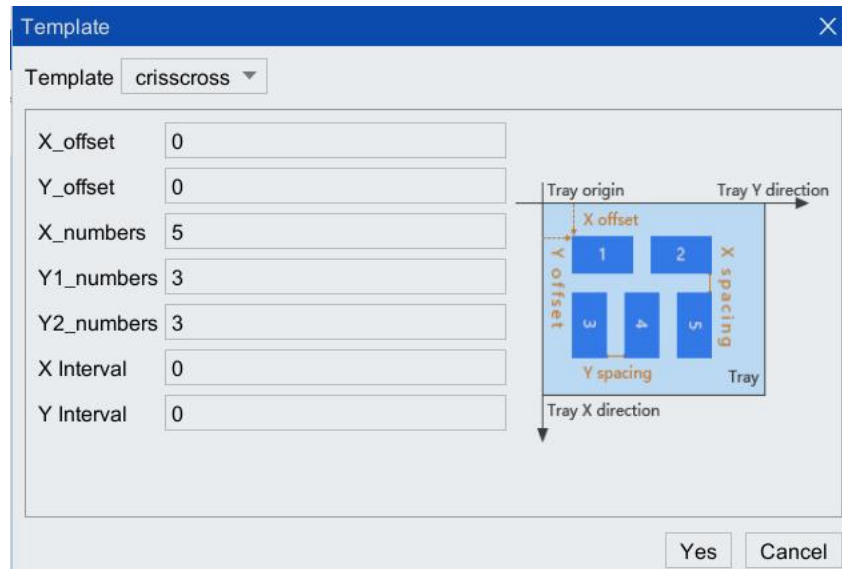

Figure 3-19 Graphic template dialog box
Step2. [Template] is configured as "crisscross". In the pop-up graphic template dialog box, set the number of "X direction" to 5, the number of "Y1 direction" to 3, and the number of "Y2 direction" to 3. Click <Yes>. As shown in Figure 3-19.